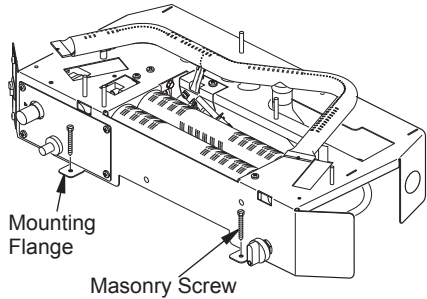

Figure 12 - Attaching Base Assembly to Fireplace Floor (30" Model Shown)
7. Mark screw locations through one hole on each side of the mounting bracket (see Figure 12). If installing in a brick-bottom fireplace, mark screw locations in mortar joint of bricks.